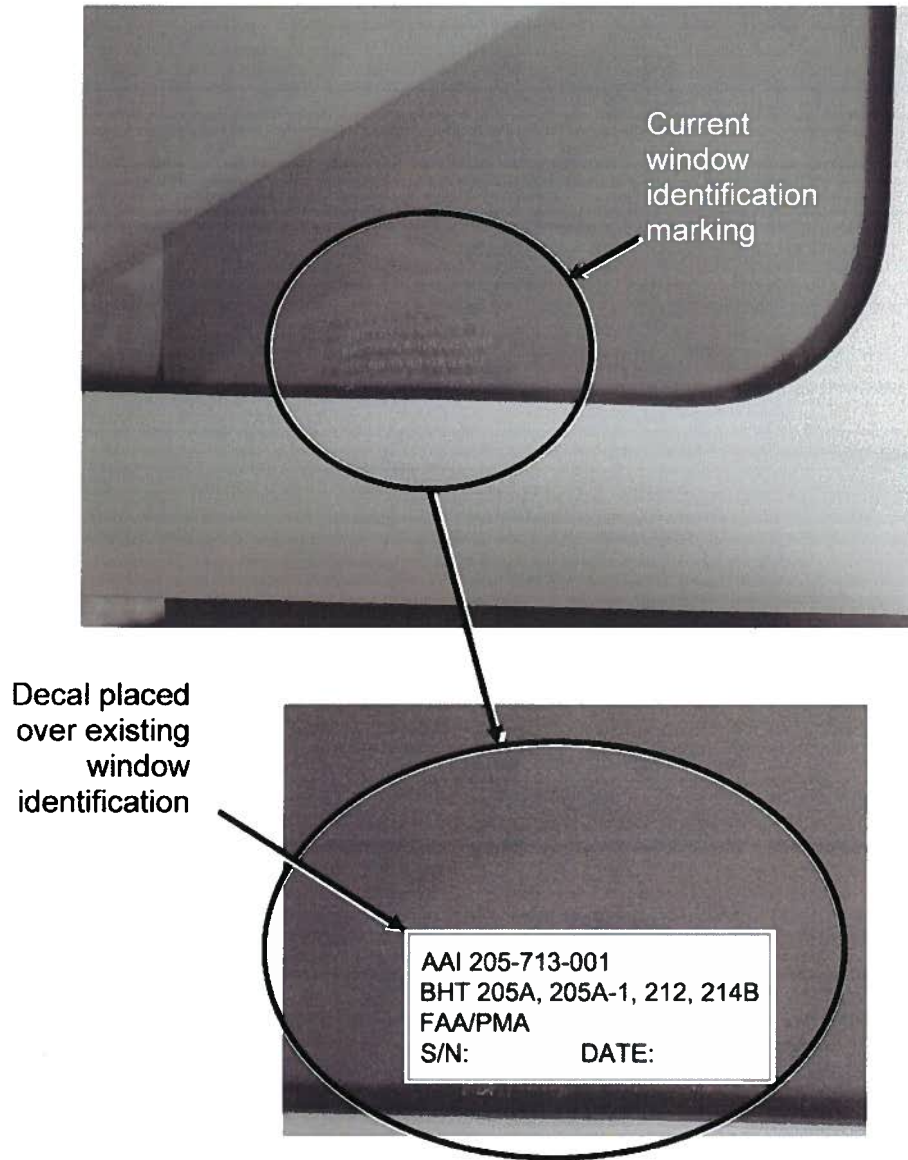

FIGURE 1 – WINDOW IDENTIFICATION AREA
2. Upon receipt of decal, locate Cargo Door Window part number/serial number identification block. (See Figure 1.)